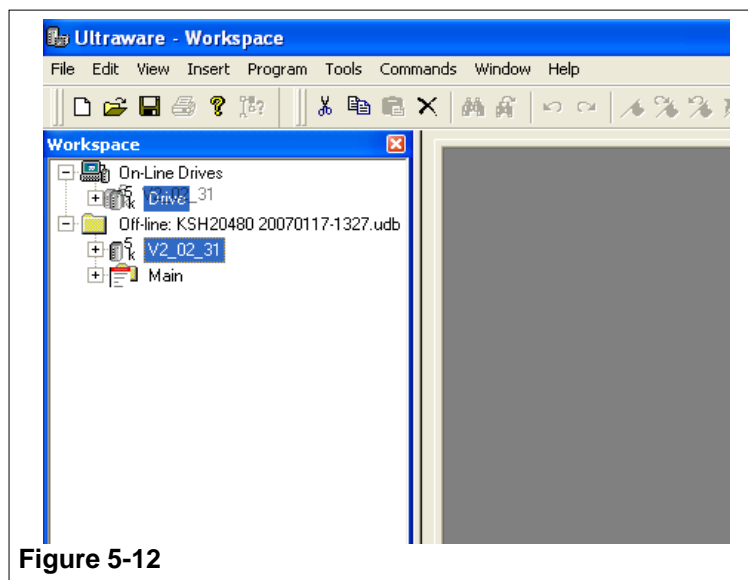

Figure 5-12
- Step 6. Drag offline drive file to the online drive file. (Figure 5-12)